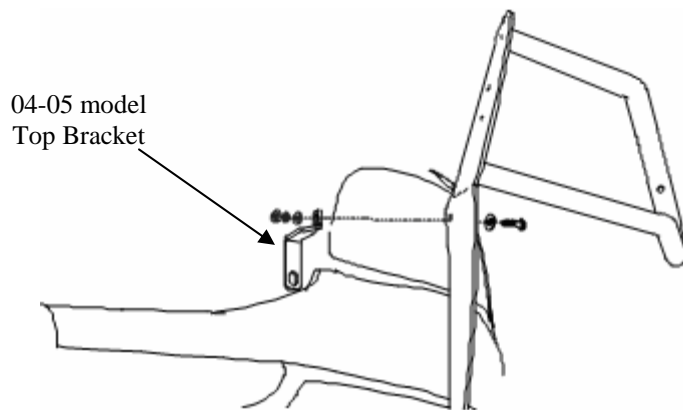

Figure 2 04-05 Driver Side Shown
For 04-05 models: Locate driver side Top Bracket, (2) Yellow Zinc M10 x 40mm Hex Head Bolts, and (2) Yellow Zinc M10 Flat Washers. Open hood and locate the Top Bracket mounting location (Fig 2). The Top Bracket mounting location is located in the inside of the vehicle next to the rubber stopper. Attach Bracket using the hardware listed. Do not tighten hardware at this time. Repeat this step for opposite side.
Step Five: Locate (2) Stainless Steel M10 x 30mm Hex Head Bolts, (4) Stainless Steel M10 Flat Washers, (2) Stainless Steel M10 lock Washers, and (2) Stainless Steel M10 Hex Nuts. Attach the front of the Top Brackets to the Grille Guard by using the hardware listed in this step (Figure 2). Center Grille Guard and tighten all hardware at this time.